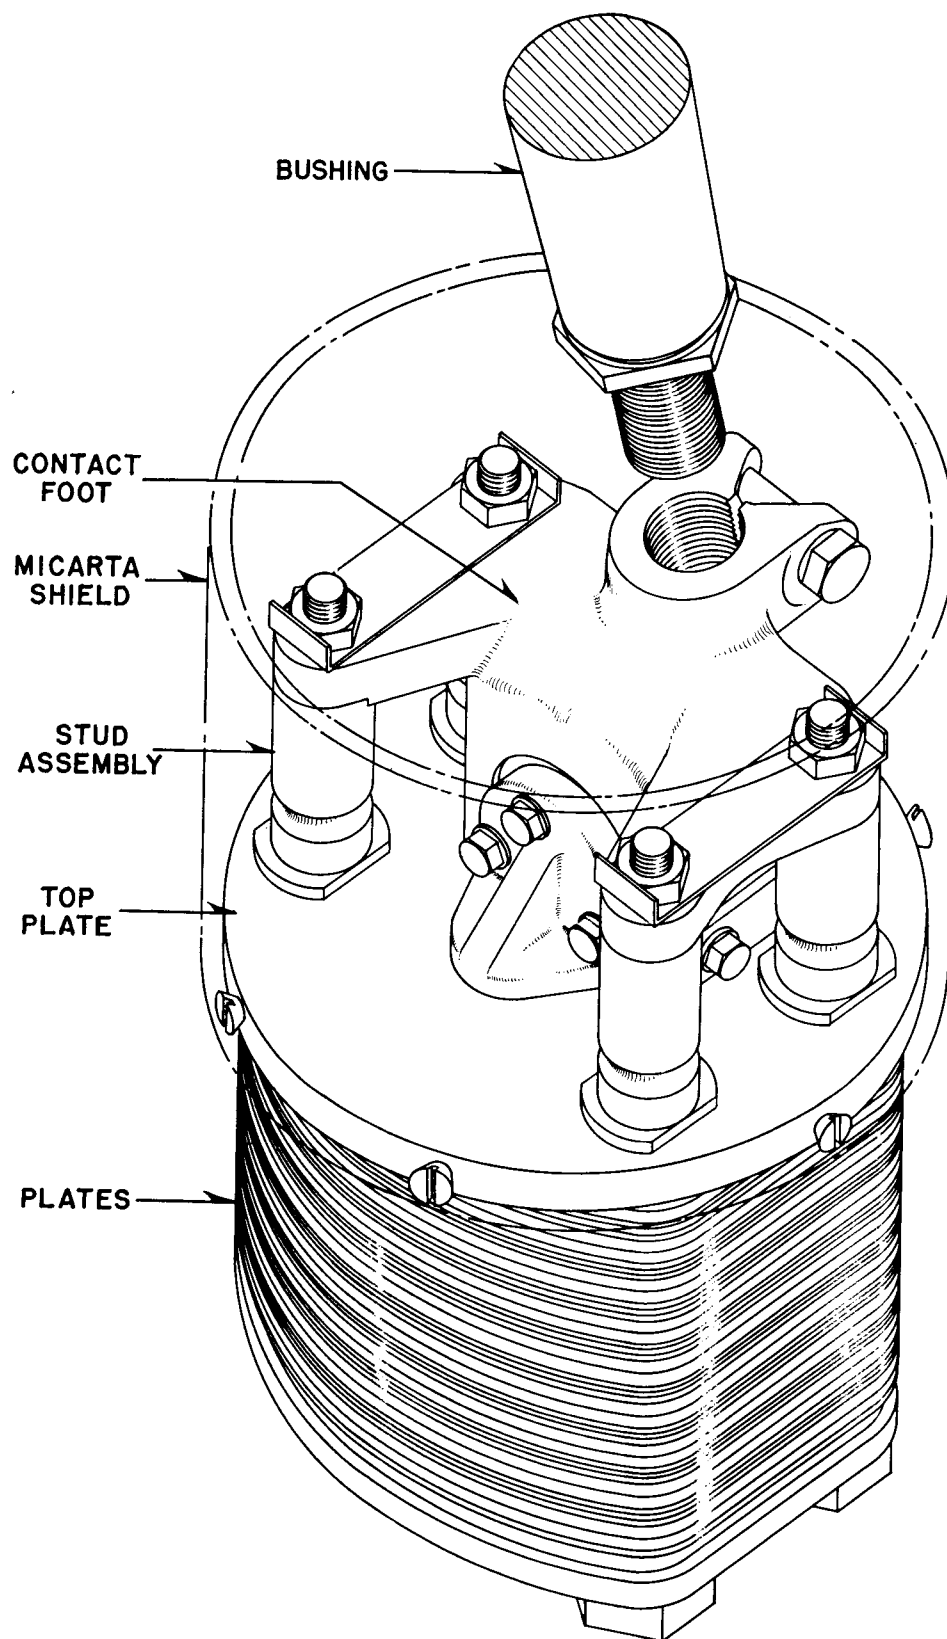

FIG. 13. Method of Disassembling the Stationary Contact Assembly
**Stationary Contacts.** The stationary contact assembly, including the "De-ion" Grid stack, is attached to the bottom of the condenser bushing in the steps shown in Fig. 13. In most cases, especially with the larger grids, this is best accomplished by removing the contact foot from the grid before attempting to screw it onto the bushing.
After all parts are in place, operate the breaker slowly by hand and adjust the various parts with respect to each other until proper contact, pressure or engagement is obtained. (See Figures 13 and 14.) Correct adjustment of the pole unit lever systems must be made so that the moving contacts and lift rods move freely in the slots of the "De-ion" Grids and the lift rods in the lift rod guides. After this is done, tighten all bushing flange bolts evenly and securely, tighten lock nut holding contact foot to bushing, replace insulating shield on stationary contact assembly and check all nuts and bolts on the stationary and moving contacts for tightness.